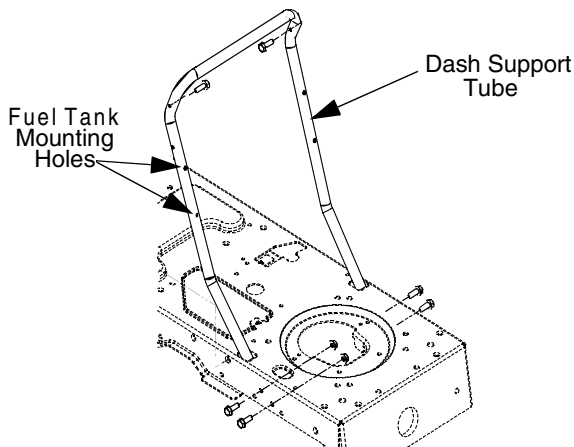

Figure 1
2. Remove the (6) screws that fasten the support tube (Figure 1) to the dash and frame of the tractor. The orientation of the top two screws may vary depending upon model style. It is important to take note of the hardware position and reattach it as it was from the factory. *This step is needed to provide enough clearance to remove the fuel tank. It may not be necessary to perform this step on units with single cylinder engines.*
3. Remove the (4) fuel tank mounting screws (Figure 1) and then remove the fuel tank. To remove the fuel tank, carefully push the dash support tube toward the dash assembly while lifting the tank upward and toward the front wheels. (Figure 2) Pay particular attention to the routing of the fuel line so that it may be reinstalled exactly as it was prior to removal.